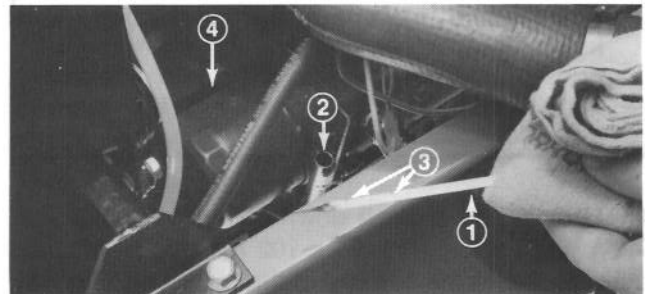
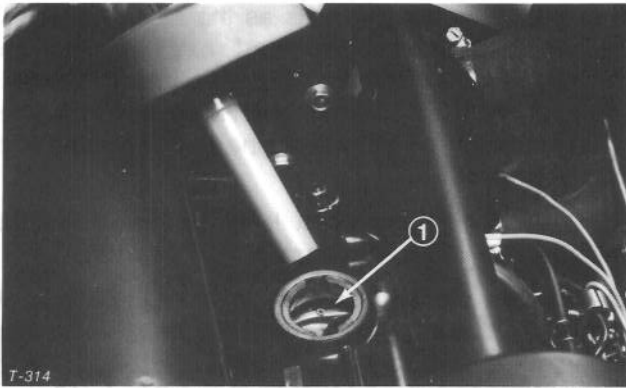

Figure 18
Figure 19
4. Remove dipstick and wipe it with a clean rag (Fig. 18). Push dipstick down into the tube and ensure it is fully seated. Pull dipstick out of the tube and check level of oil. If oil level is low, remove filler cap (Fig. 19) and add enough oil to raise level to top notch on dipstick (Fig. 18). DO NOT OVERFILL.